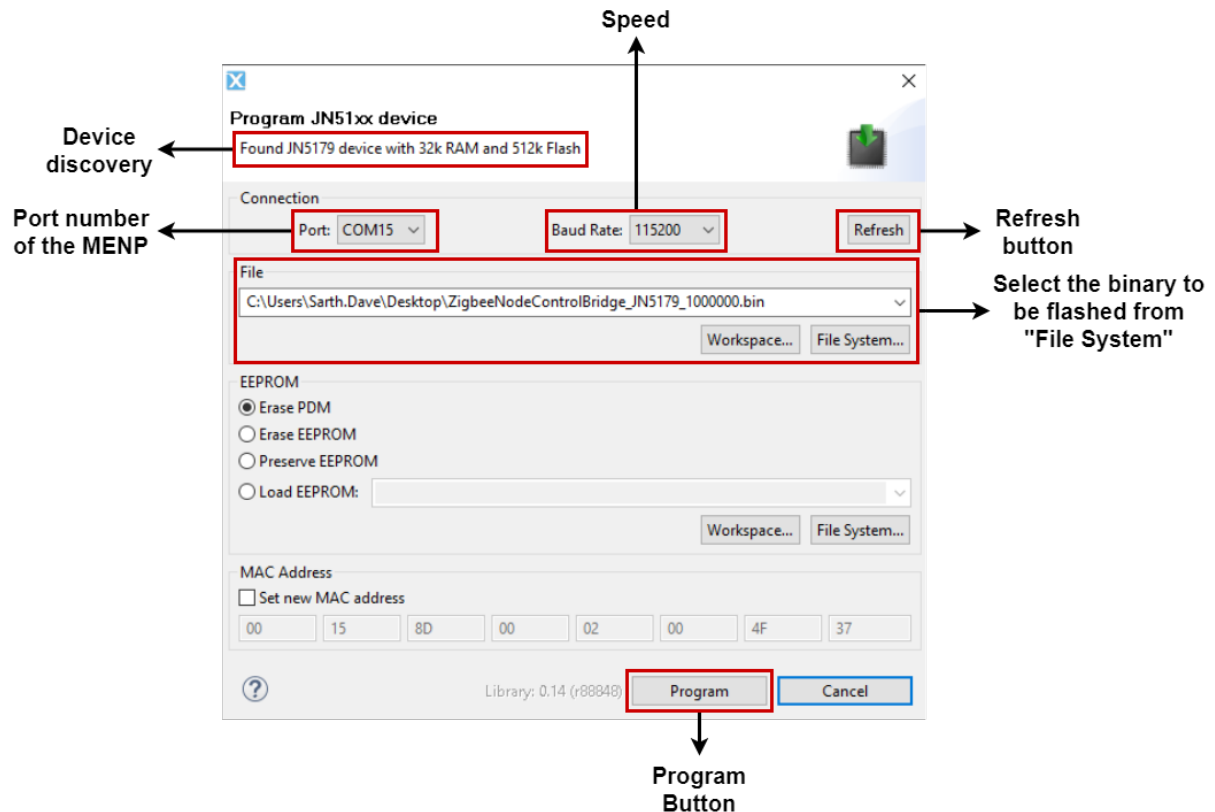

Figure 2-15: Elements of Programming Window
4. Click on "Refresh". Then select on the appropriate COM port of the MENP and the device discovery area should list the module it discovered. Refer to figure 2-15 for further details.